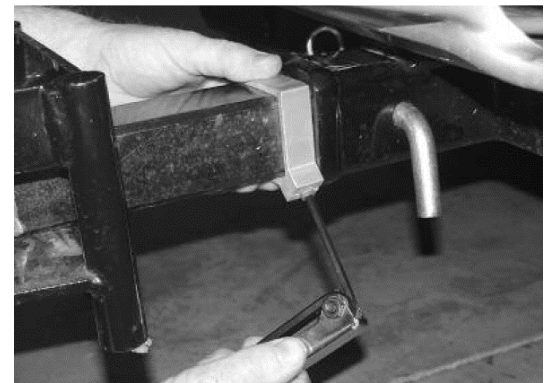

Figure 2
2. Push set collar tight against receiver – hold and tighten set screw with 3/16" Allen wrench (**Figure 2**).